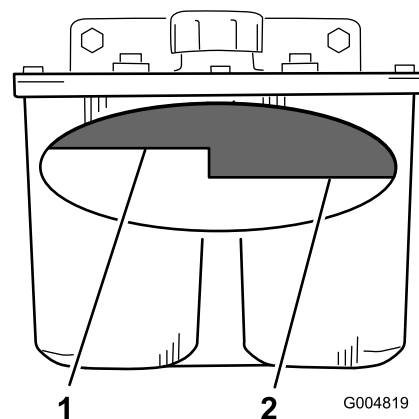

Figure 91
4. Clean the area around the filler neck of the hydraulic tank (Figure 91).
5. Remove the cap from the filler neck and look inside to check if there is fluid in the reservoir (Figure 91).
Note: The fluid level should be to the top of the hot level of the baffle, when the fluid is hot (Figure 91).